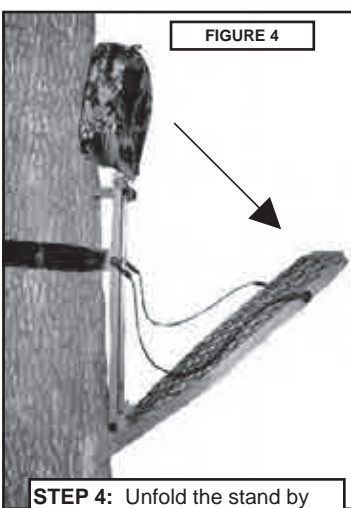

FIGURE 4
**STEP 4:** Unfold the stand by bringing the platform downward (See Fig.4) Pull seat platform downward and adjust seat.